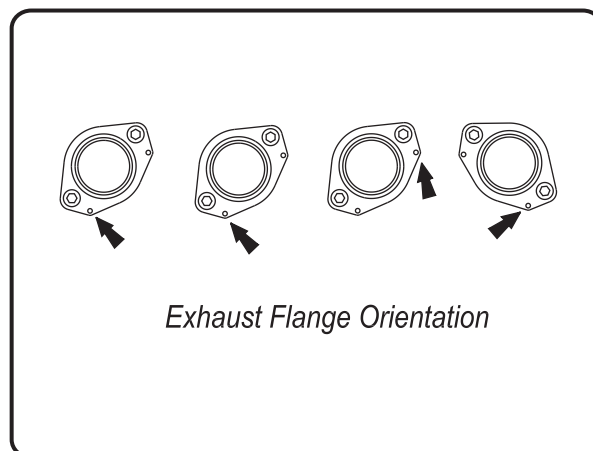

Fig. 5
- 6 Install Yoshimura manifolds and flanges into exhaust ports using stock header nuts (see Fig. 5 for flange orientation). Do not torque at this time.
- 8 Connect header to flanges using the supplied springs (see Fig. 5 for spring locations).